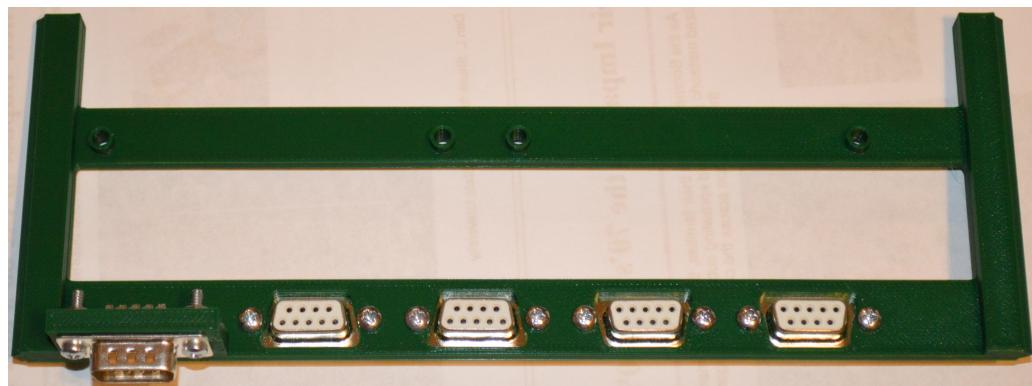

Figure 2.3: Panel I/O Tray with Connectors
- Attach the connectors to the tray (see Figure 2.3)..